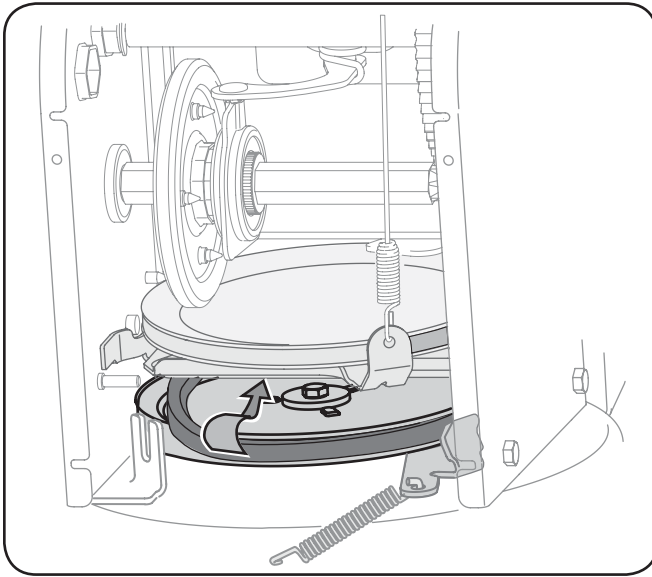

**Fig. 7-5**
7. Remove the belt from around the auger pulley, and slip the belt between the support bracket and the auger pulley. See Fig. 7-5.